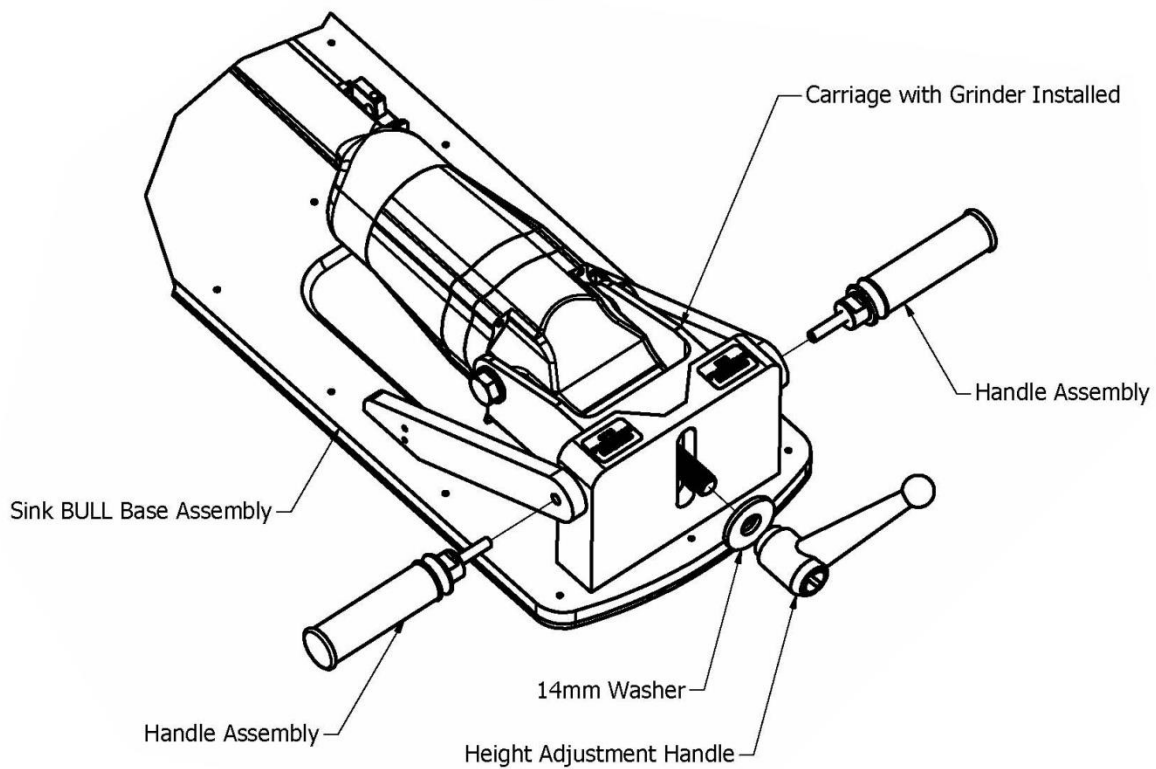

FIGURE 5 – Install Carriage and Handles
11. Place the "V" nose of the carriage assembly (with the grinder installed) into the "V" notch of the base assembly with the 5/8" bolt protruding through the slot (see Figure 5).
12. Place the 5/8" washer over the bolt and install the height adjustment handle by hand tightening it onto the 5/8" bolt (see Figure 5).
14. Using a 5/8" open end wrench or Crescent wrench, tighten the handle assemblies into place on each side of the Sink BULL™ as shown (see Figure 5).
- a. Remove the height adjustment handle and washer (see Figure 5).
- e. Re-assemble (see Figure 5).